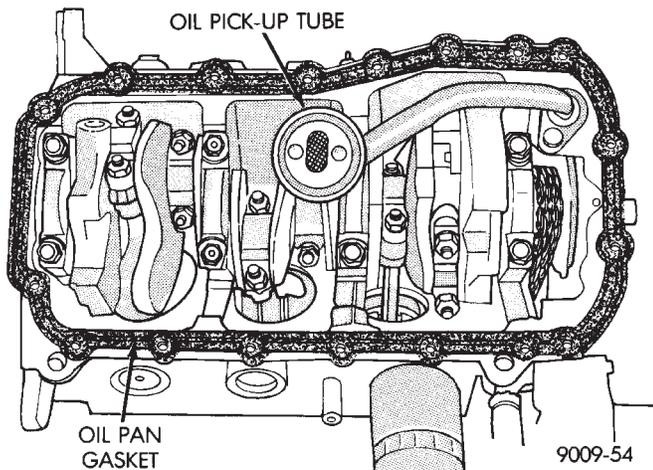

Fig. 4 Oil Pan Gasket Installation
- (3) Use a new pan gasket (Fig. 4).
- (4) Install pan and tighten screws to 23 N·m (200 in. lb.).